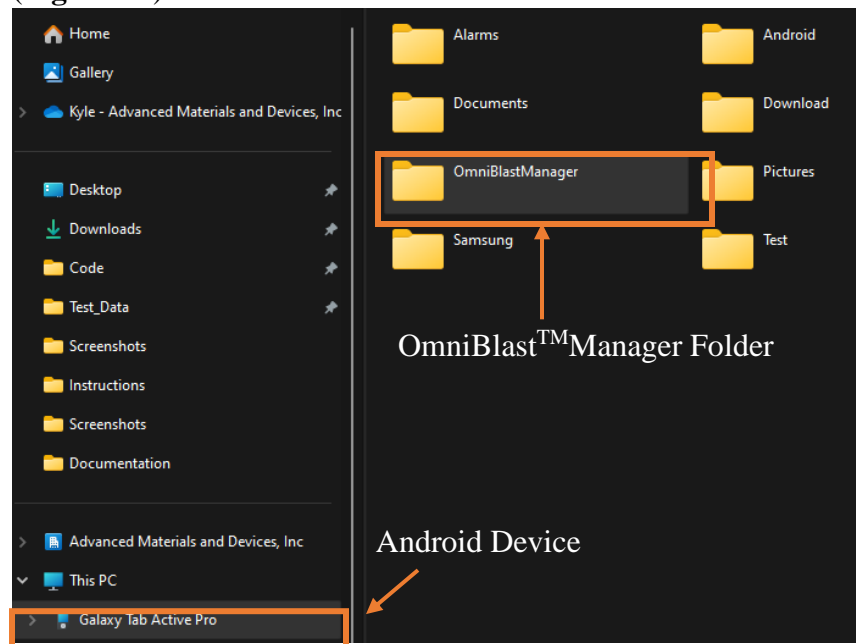

Figure 20. Accessing parsed event files with the OSM connected to a PC.
- k. Raw Data Files:** To access parsed event files stored on the Android device, with the Android device connected to a PC, navigate to: This PC -> Android Device Name->OmniBlast™Manager->Sensors->SensorSerialNumber->ParsedFiles (Figure 20).